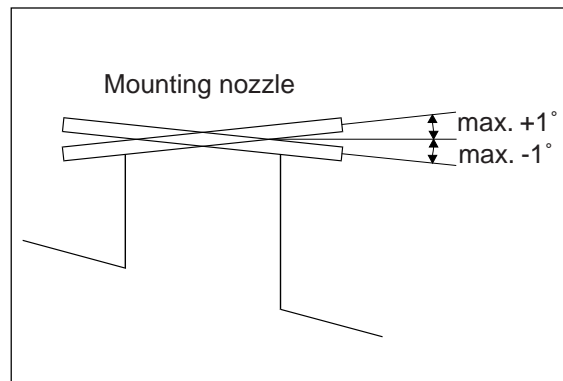

Fig. 9:
- Install the flange on the top of the tank. Its deviation from the horizontal plane should not exceed $\pm 1^\circ$ (see Fig.9).